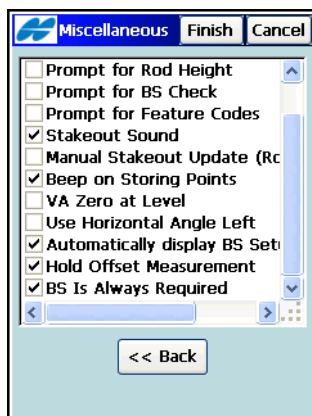

Figure 4-78. Miscellaneous
14. Select additional customizing parameters in the *Miscellaneous* screen (Figure 4-78).